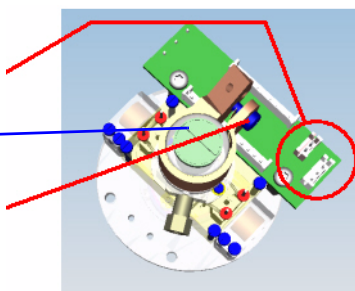

Figure 15 Heater, temperature sensor plugs, and clamp
- Screw the screw into the thread. The screw shown in Figure 15 on page 19 is the same screw that holds the top cover of the instrument. You can use the screw from the cover of the top manifold if necessary.